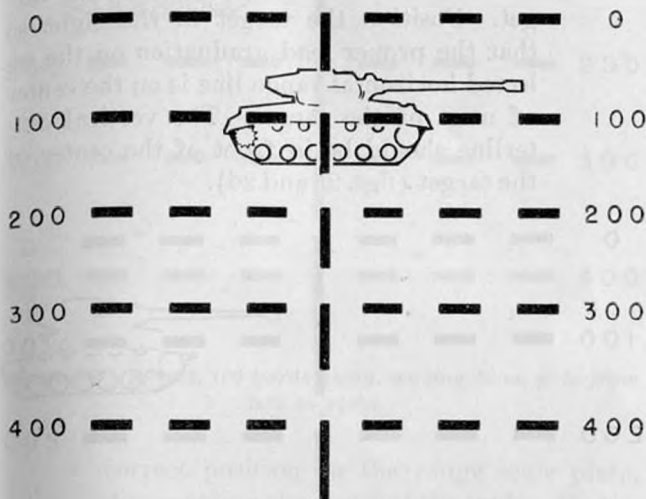

Figure 24. Stationary target 100 yards away.
c. Stationary Targets. To fire at a stationary target, estimate the range and set the indicator arm in the correct position. Find the point where the vertical line and the correct horizontal line for the desired range cross. Place this aiming point on the center of mass of the target (fig. 24) and fire. At shorter ranges the aim may be shifted to the most vulnerable spot on the target, such as the embrasure